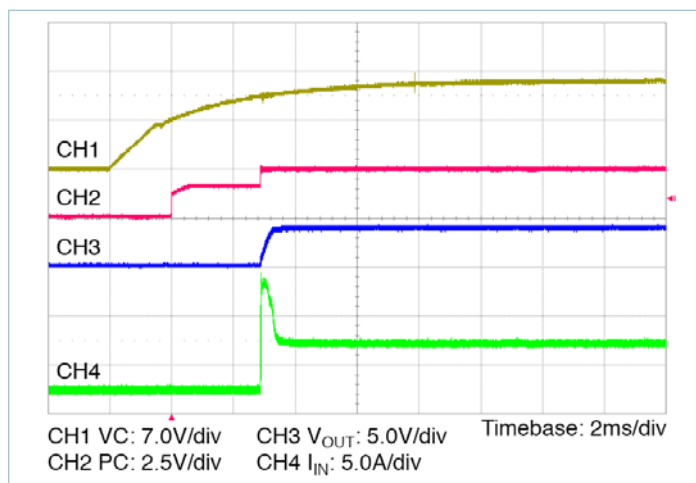

Figure 14 — Start up from application of V_C ; V_{IN} pre-applied $C_{OUT} = 1000\mu\text{F}$
- **Stand-alone operation (VC applied after V_{IN}):** In this case the VTM output will begin to rise upon the application of the VC voltage (See Figure 14). The Adaptive Soft-Start Circuit may vary the output rate of rise in order to limit the inrush current to its maximum level. When starting into high capacitance or a short, the output current will be limited for a maximum of 1200μs. After this period, the Adaptive Soft-Start Circuit will time out and the VTM module may shut down. No restart will be attempted until VC is re-applied or PC is toggled. The maximum output capacitance is limited to 1000μF in this mode of operation to ensure a successful start.